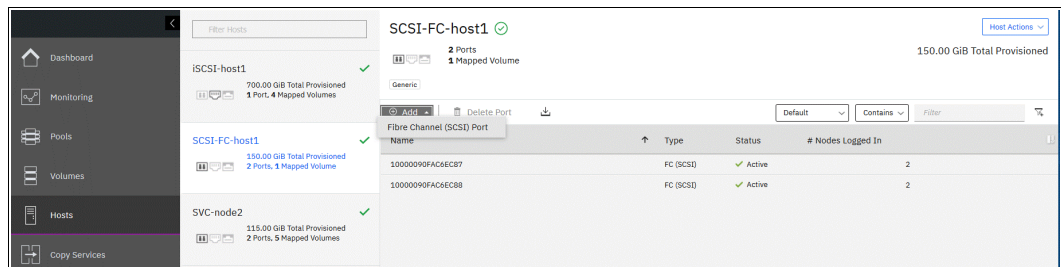

Figure 7-68 Adding host ports
2. Click **Add** (see Figure 7-68). A drop-down menu appears that when clicked shows you a list of the port types that can be assigned to the selected host.